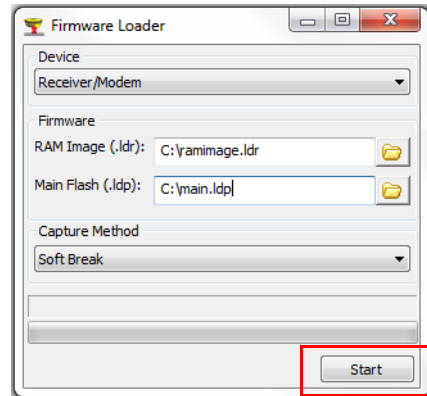

Figure 8: Upload Firmware Window
3. Click the **Firmware**  icon in the SRU main window. The **Upload Firmware** window (Figure 8) displays. This window enables you to upload firmware files to the connected receiver.
6. Browse for and select the receiver board's RAM and Flash files (Figure 8).